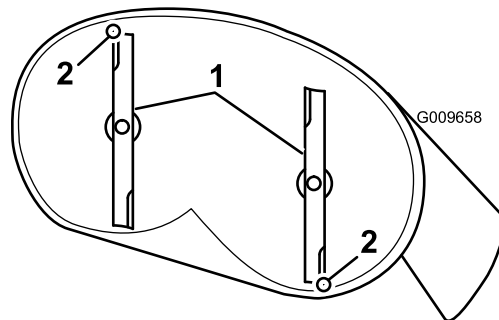

Figure 55
4. Carefully rotate the blades so they are facing front to rear (Figure 55).
8. After adjustment, check the front-to-rear slope again. Continue adjusting the nut until the front blade tip is 1.6-7.9 mm (1/16-5/16 inch) lower than the rear blade tip (Figure 55).